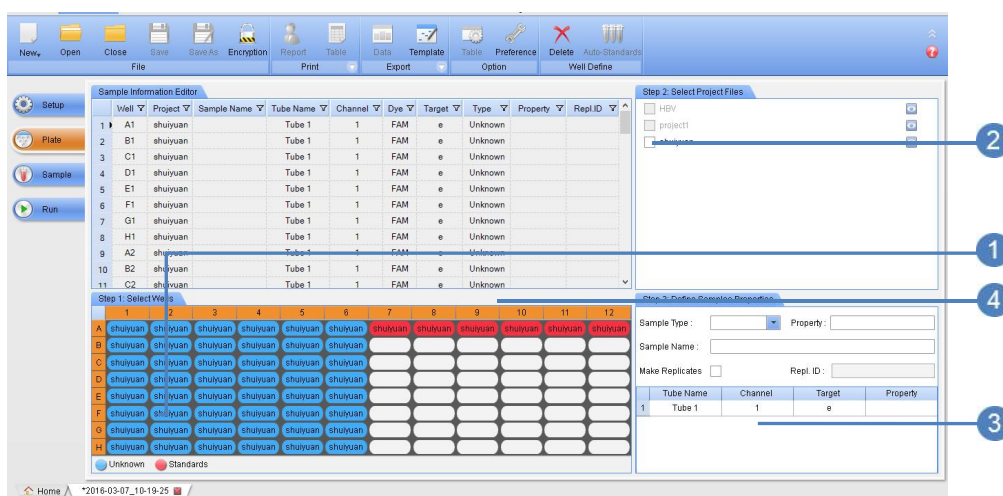

Fig 4- 21
- 1 Click **Plate** tab to enter the screen for well defining (Fig 4- 21). Choose wells to be edited in the **Well Selector**. In case of multi-tube samples, the number of wells you need to select should be at least greater than the well numbers of a sample.